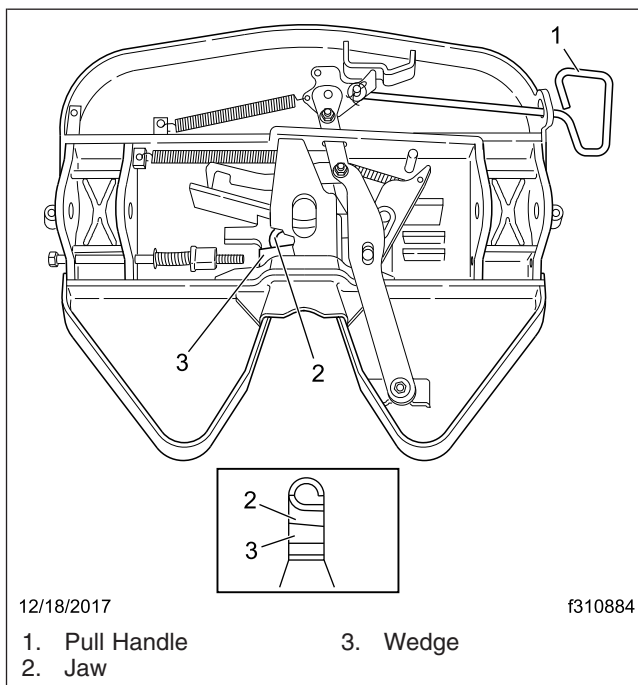

Fig. 5, Fontaine Fifth Wheel
3. Lubricate the fifth wheel prior to opening and closing. Grease the jaw and wedge with a screwdriver and distribute the grease along the full length of the jaw and wedge mating surfaces. See **Fig. 5**. Open and close the fifth wheel several times to further distribute the grease.